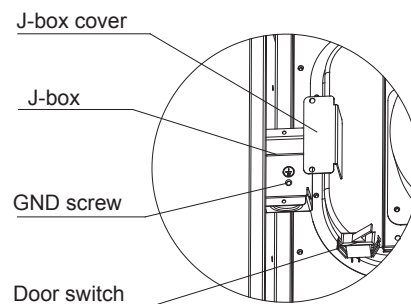

Fig. 31- J-box
1. Remove and save two screws holding J-Box. (See Fig. 31.)
- Remove and save two screws holding J-Box. (See Fig. 31.)